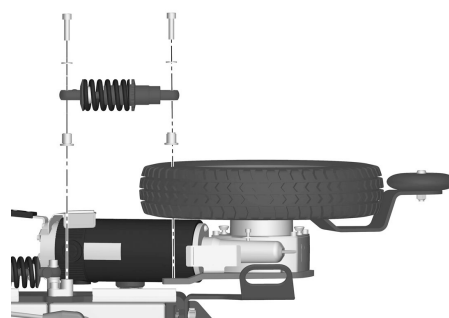

Figure 446. Mounting or removing the front shock absorber.
1. Mount the shock absorber using the two screws and washers. Tighten the screws using a torque wrench. Tightening torque: 17.7 lb.ft. See fig. 446.
5. Remove the shock absorber, it's fitted with two screws and washers and a nut. See fig. 446.